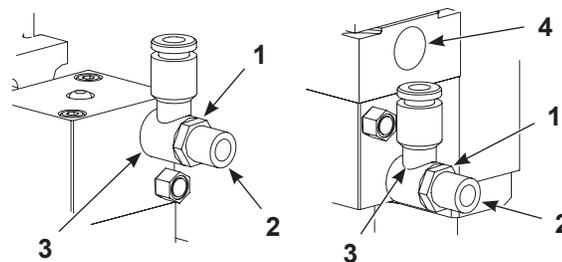

Figure 5 Adjusting a Control Valve
1. See Figure 5. Loosen the locking collar (1) on the control valves (3).
2. Turn the knob (2) clockwise until it bottoms out into the control valves (3). Back out the knob two turns.
3. Tighten the locking collar (1) securely.
4. Cycle the dispense gun. Observe the needle thru the weep hole (4). If the needle does not fully stroke within about 0.25-0.50 seconds, verify that the air supply pressure is between 60-90 psi (4.1-6.2 bar) and readjust the valves.